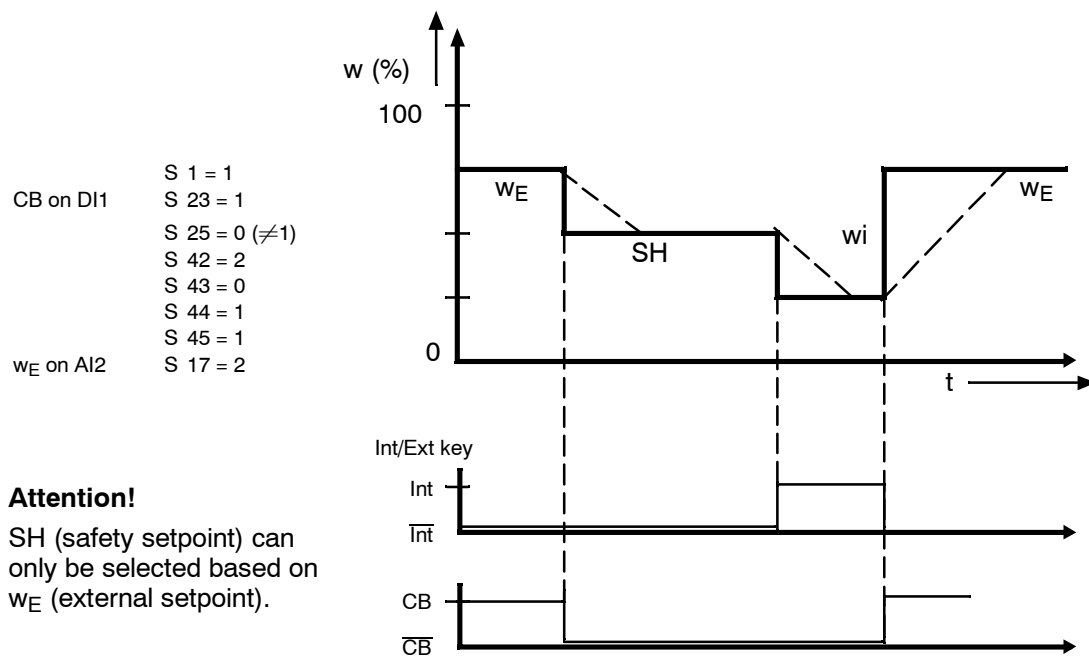

Figure 7-2 Setpoint curve according to example 2
The switching between  $w_E$  and SH takes place with the digital signal CB (Internal/External key (16) must be set to "External"). The External/Internal key (16) switches between  $w_E$ /SH and  $w_i$ . Figure 7-2 shows the setpoint curve with and without setpoint ramp  $t_S$ .